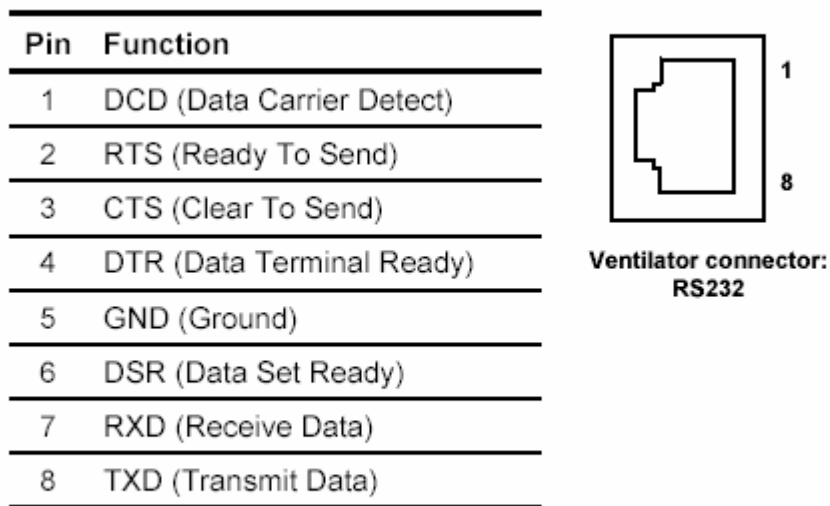

Figure 2, RS232 Pin Assignments
- On the download start-up screen select 'Next' to proceed and the firmware selection screen, shown in figure 2, will appear.
Pin assignments for the Serial (RS-232) Port of the Inspiration series ventilator are as shown on figure 2, below.